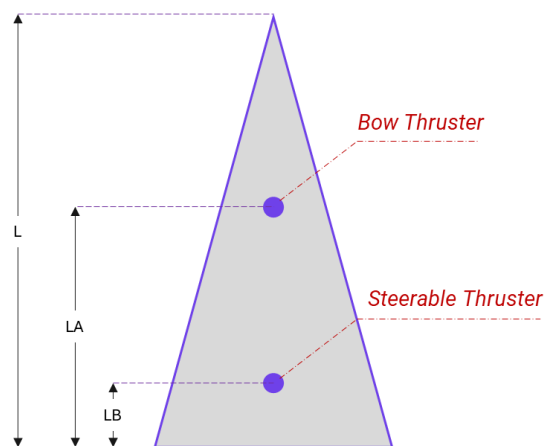
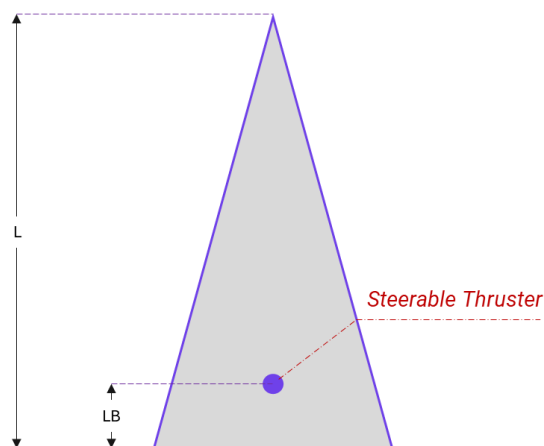
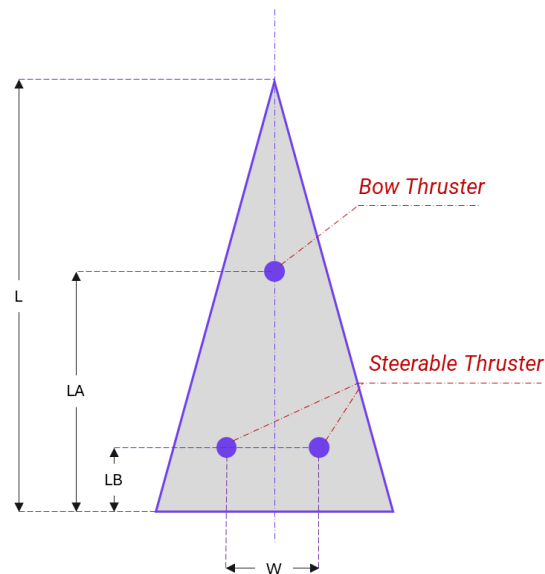

Figure 9: Configuration "0" Geometric Parameters
Figure 10: Configuration "1" Geometric Parameters
Figure 11: Configuration “2” Geometric Parameters
- 1- Enter the configuration of the vessel parameters and values. All geometric parameters are as explained in Figure 9, Figure 10 and Figure 11.